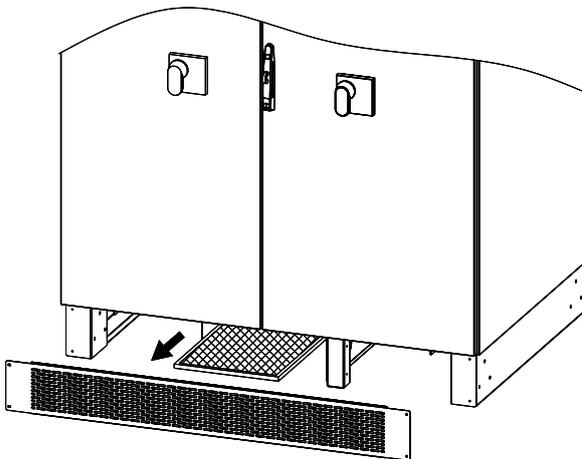

Figure 7-2 Pulling out filter net at the bottom
- (1) Remove the four M4 screws on the baffle at the bottom of inverter with a T25 spline screwdriver and then take off the baffle.
- (2) Pull out the filter net from the bottom of the inverter, as shown in Figure 7-2.